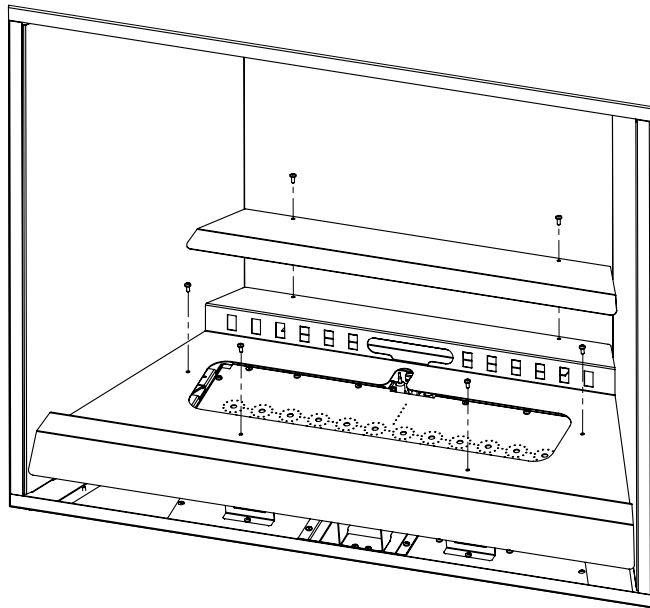

Figure 19. Front Burner Removal
5. Remove the upper tray hat by removing the two (2) upper T-20 screws.
6. Remove the four (4) remaining T-20 screws securing the glass media tray (see Figure 19). Lift up and out.